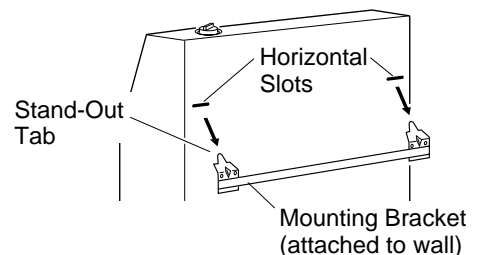

Figure 10 - Mounting Heater Onto Mounting Bracket
2. Place heater onto mounting bracket. Slide horizontal slots onto stand-out tabs on mounting bracket (see Figure 10).